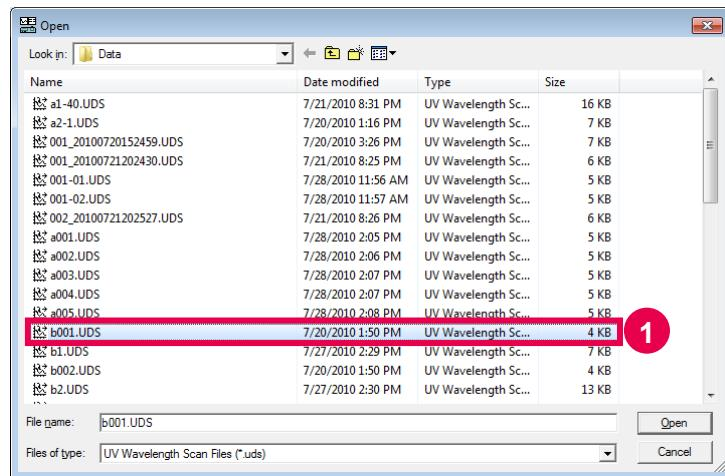

Fig. 6-36
- (1) Click the  (Open) button to open the Open dialog box. In this dialog box, select a data file and click the **Open** button. In the example shown here, a data file “Cooling drink-001.UDS” is selected (refer to (1) in Fig. 6-36).